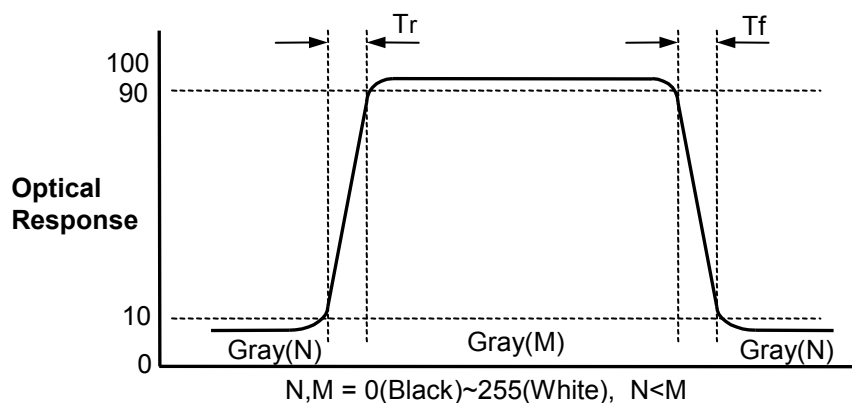

FIG. 3 Response Time
4. Response time is the time required for the display to transition from G(N) to G(M) (Rising Time, Tr) and from G(M) to G(N) (Falling Time, Tf). For additional information see the FIG. 3. (N<M)